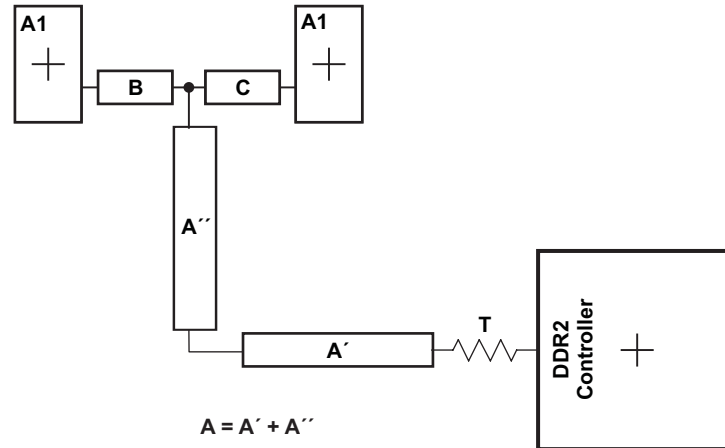

Figure 9-52. CK and ADDR_CTRL Routing and Topology
Figure 9-52 shows the topology of the routing for the CK and ADDR_CTRL net classes. The route is a balanced T as it is intended that the length of segments B and C be equal. In addition, the length of A ($A' + A''$) should be maximized.
(1) The length of segment $A = A' + A''$ as shown in Figure 9-52.
(2) Series terminator, if used, should be located closest to the processor.
(3) Center-to-center spacing is allowed to fall to minimum (w) for up to 500 mils of routed length to accommodate BGA escape and routing congestion.
(4) CACLM is the longest Manhattan distance of the CK and ADDR_CTRL net classes.